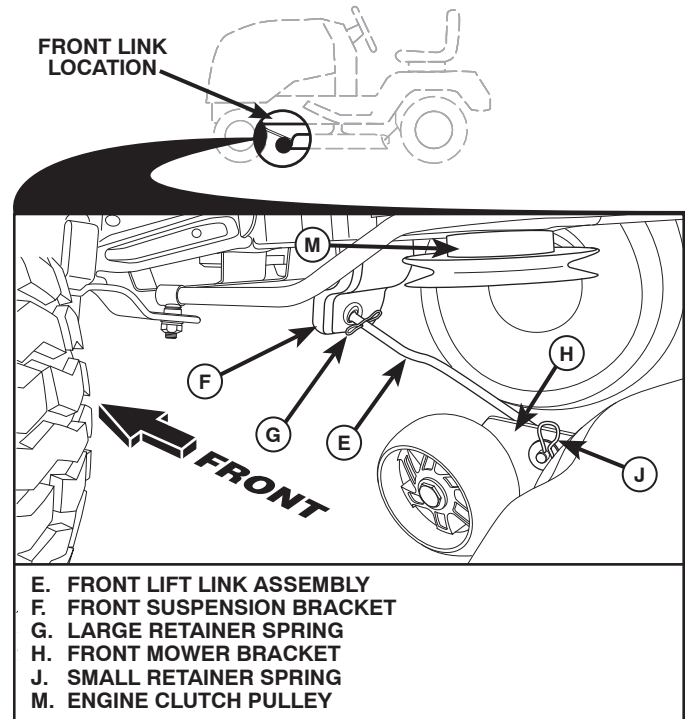

Fig. 30
## 8 ATTACH FRONT LINK (E) (See Fig.30)
- From front of tractor, insert rod end of front link (E) through front hole in tractor front suspension bracket (F).
- Move to left side of mower and insert large retainer spring (G) through hole in front link (E) behind front suspension bracket (F).
- Insert other end of link (E) into hole in front mower bracket (H) and secure with washer and small retainer spring (J).